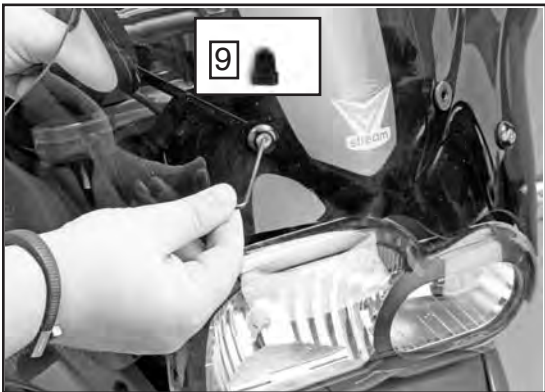

Figure 17
12. **Firmly tighten** the 4 screw assemblies. Figure 17 and 18 (5mm Hex Wrench, Closed Box Wrench)